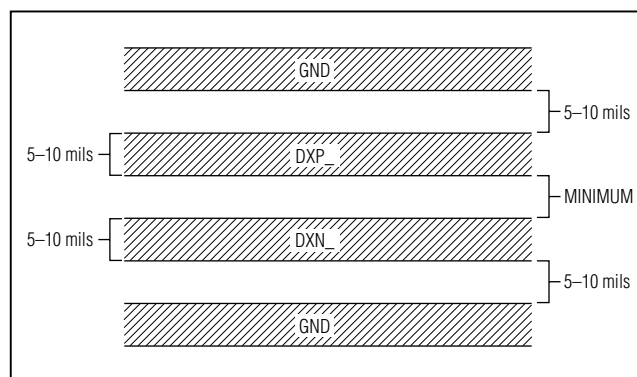

Figure 5. Recommended DXP₋/DXN₋ PCB Traces. The two outer guard traces are recommended if high-voltage traces are near the DXN₋ and DXP₋ traces.
- 3) Route the DXP₋ and DXN₋ traces in parallel and in close proximity to each other. Each parallel pair of traces should go to a remote diode. Route these traces away from any higher voltage traces, such as $+12\text{V}$ DC. Leakage currents from PCB contamination must be dealt with carefully since a $20\text{M}\Omega$ leakage path from DXP₋ to ground causes approximately $+1^{\circ}\text{C}$ error. If high-voltage traces are unavoidable, connect guard traces to GND on either side of the DXP₋/DXN₋ traces (Figure 5).